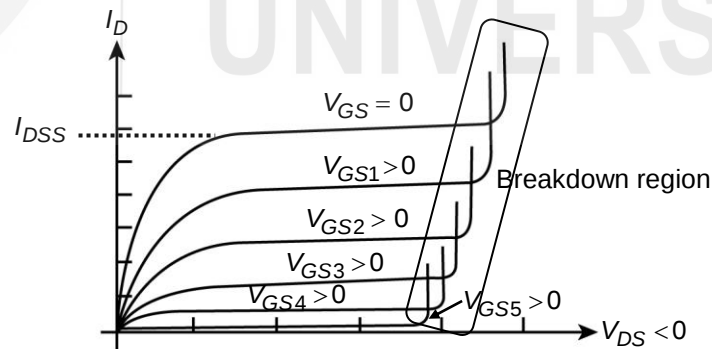

Fig. 3.23: Drain characteristic curve for a p -channel JFET.
8. The drain characteristic curve for a p -channel JFET is shown in Fig. 3.23. The drain current in a p -channel JFET is zero when $V_{GS} = V_P$. It is maximum in a p -channel JFET when $V_{GS} = 0$ and $V_{DS} = V_P$.